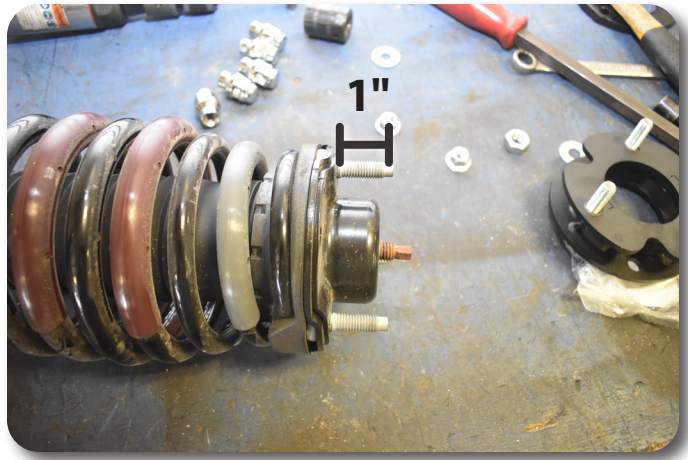

Figure 19
10. The rear studs will need to be trimmed for the strut spacer to be installed. The studs must be 1" tall from the mounting surface Figure 19.